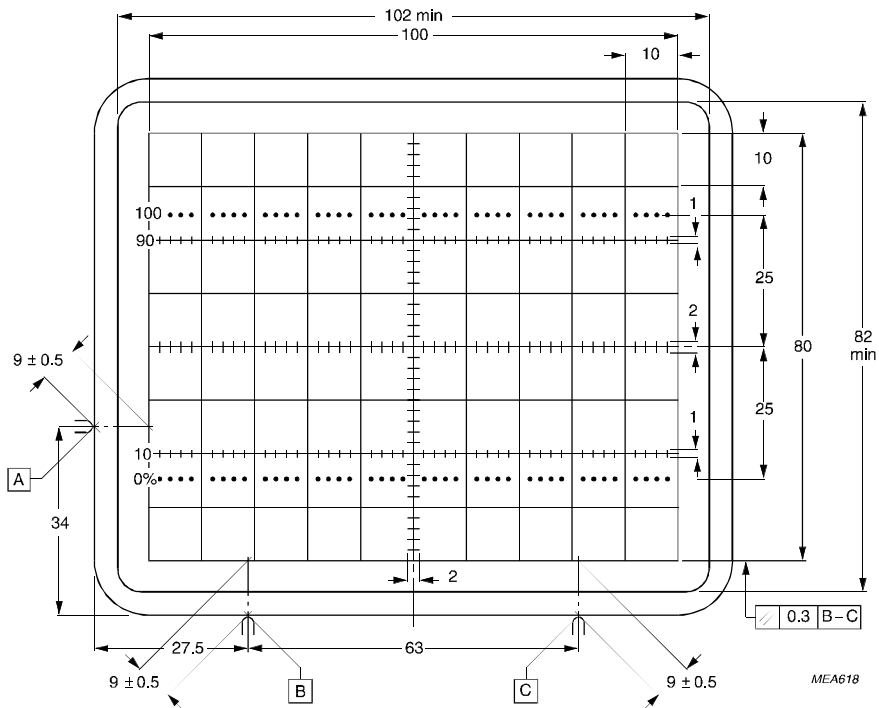

Fig.4 Front view of the tube with internal graticule, type 123.
Internal graticule	type 123; see Fig.4
The tube can be mounted in any position. It must not be supported by the socket and not by the base region alone. The reference points (A, B and C) on adjoining edges of the faceplate (see Fig.4) enable the tube to be positioned accurately in the front panel, for optimum alignment of the internal graticule with respect to the bezel.
- (1) Dimensions of faceplate only. The complete assembly of faceplate and cone (frit seal included) will pass through an opening of 122 mm x 102 mm.
- (2) The coil is fixed to the envelope with resin.
- (3) The length of rotation coil connecting leads is min. 350 mm.
- (4) Reference points on faceplate for graticule alignment (see Fig. 4).
The internal graticule is aligned with the faceplate by using the faceplate reference points, see Fig.4 and note 1. The reference points A, B and C are for aligning the graticule with the faceplate. Line thickness = 0.18 mm; dot diameter = 0.38 mm; colour red.
1. Because the frit seal is visible through the faceplate, and is not necessarily aligned with the internal graticule, application of an external passe-partout with an open area of max. 102 mm x 82 mm is recommended. The internal graticule is aligned with the faceplate by using the faceplate reference points (see Fig.4).